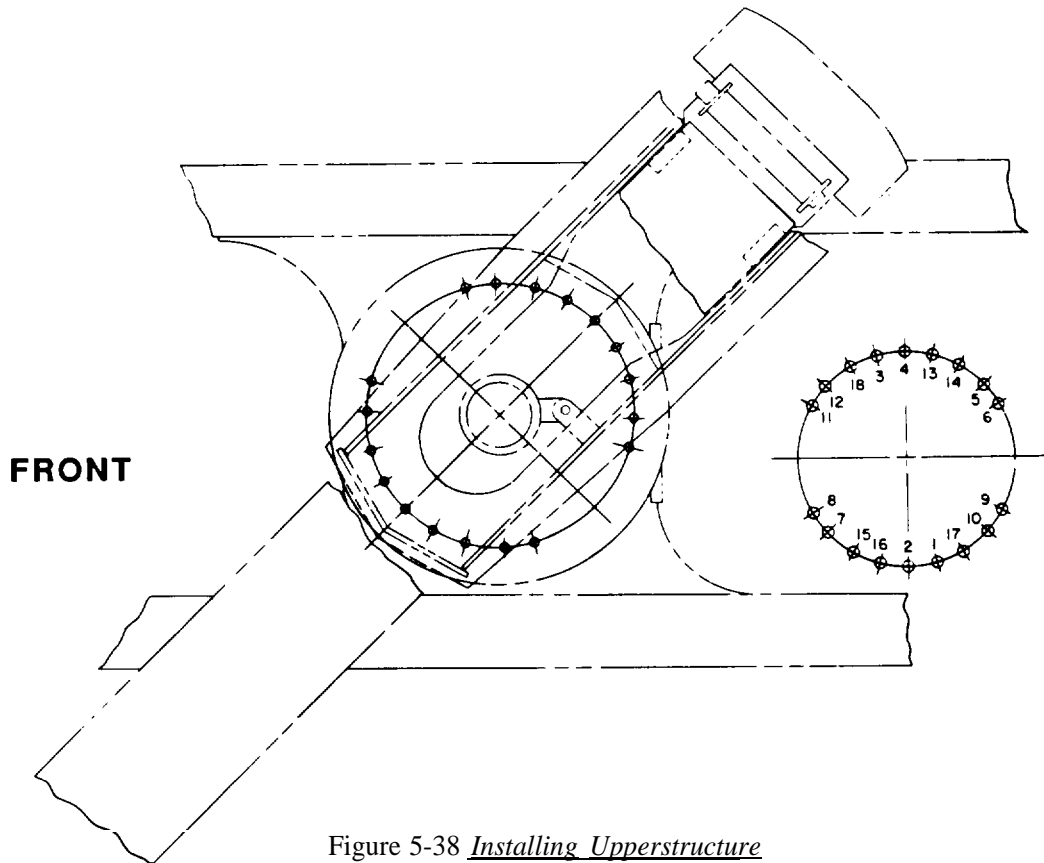

Figure 5-38 *Installing Upperstructure*
3. By pushing on lift arm and pulling with tether rope, manually swing upperstructure into mounting position with boom pointing in a 10 o'clock direction on left side of carrier (Figure 5-38).
1. Align the upperstructure and swing bearing by manually starting four mounting capscrews and eight washers into the outside corner holes 6, 8, 9 and 11 (Figure 5-38). Lower upperstructure to swing bearing.